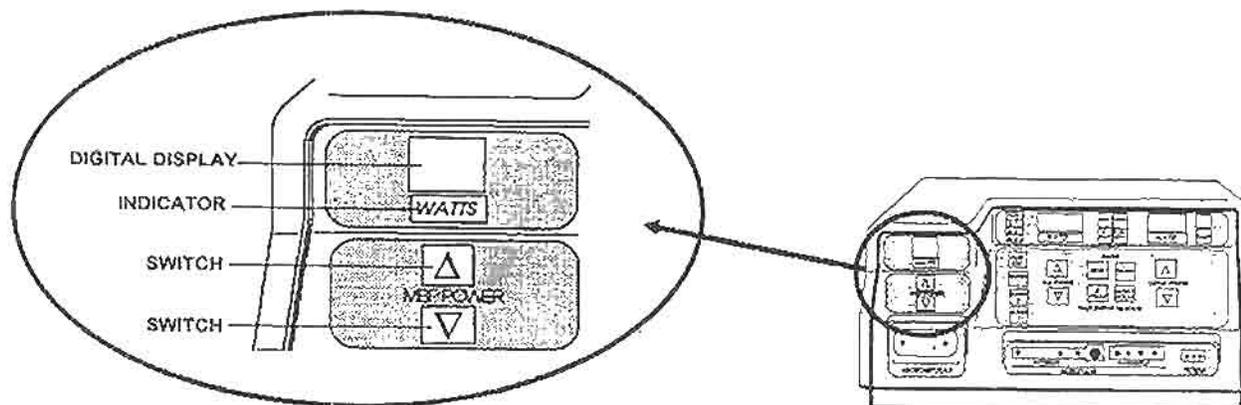

Figure 2-1. Front panel, MICROBIPOLAR section.
- (1) *Microbipolar (MBP) section (fig 2-1).*